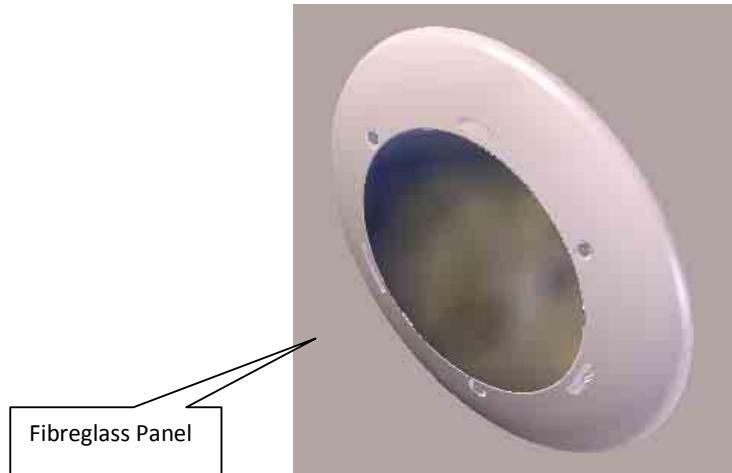

Fig. 20
17. Have ready dressing ring and three s/steel screws to finish up the work. Dressing ring also clip at (1pm o'clock) position. Do not over tight the screws do up with manual screwdriver (**Fig. 20**).